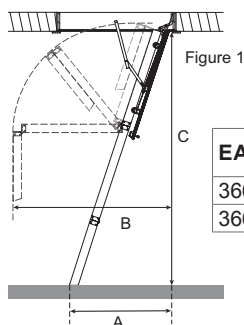

Figure 1
Wear gloves when removing insulation material. Check that the area selected for positioning the ladder is unencumbered by electrical wiring, water pipes, heating/cooling pipes, etc. If necessary, get a qualified craftsman to remove such encumbrances. Make sure that there is sufficient clearance (distance A) for the ladder to rest on the floor. Make sure that there is sufficient space for the ladder to fold out to its full length (B) (see figure 1). For two-section models, make sure that there is sufficient swing space. For specific measurements and adjustment options, see the assembly instructions supplied with the product.